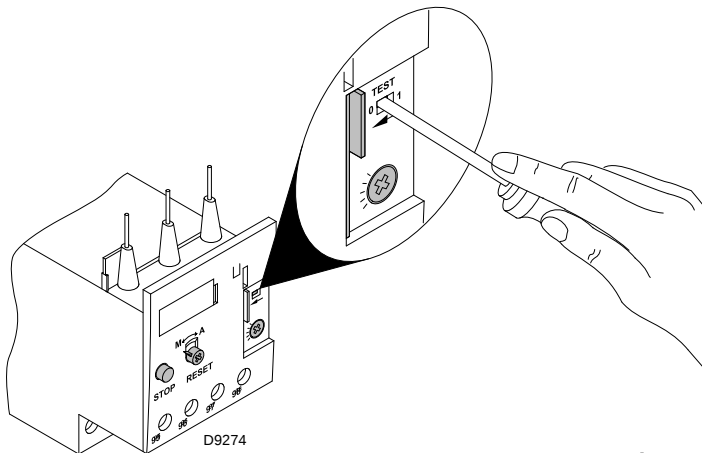

Fig. 29
- To test the thermal relay, insert a screwdriver in the window **"TEST"** (Fig. 29) and move it in the sense of the arrow (towards right).